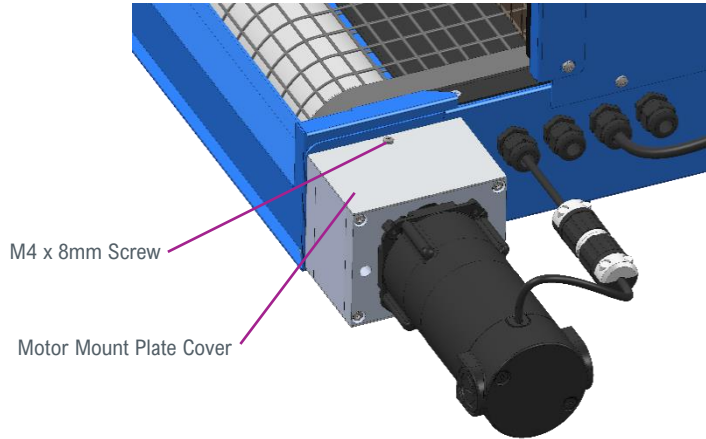

Figure 12. Install Motor Mount Plate Cover
8. Intall the Motor Mount Plate Cover and M4 x 8mm screw (Figure 12).